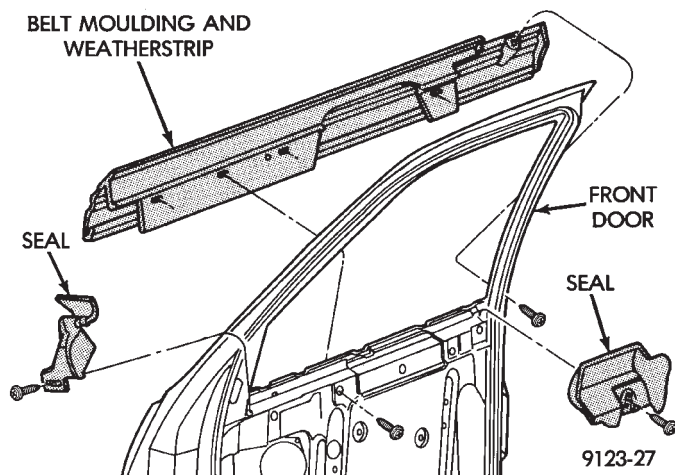

Fig. 18 Front Door Belt Moulding and Weatherstrip
BELT MOULDING AND WEATHERSTRIP REMOVAL (FIG. 18)
- (1) Remove door belt moulding and weatherstrip assembly.
- (2) Remove front and rear door glass opening corner seals (Fig. 18)
- (3) Pull door glass run weatherstrip from forward lower channel and upper door frame back to rear upper corner of door frame.
- (4) Separate weatherstrip from top of rear door frame down to first clip. Using a suitable hook tool, disengage clip barb from door frame channel. Pull weatherstrip outward to disengage clip. Repeat this procedure at each clip down the rear channel.
- (5) Separate glass channel and run weatherstrip from door.